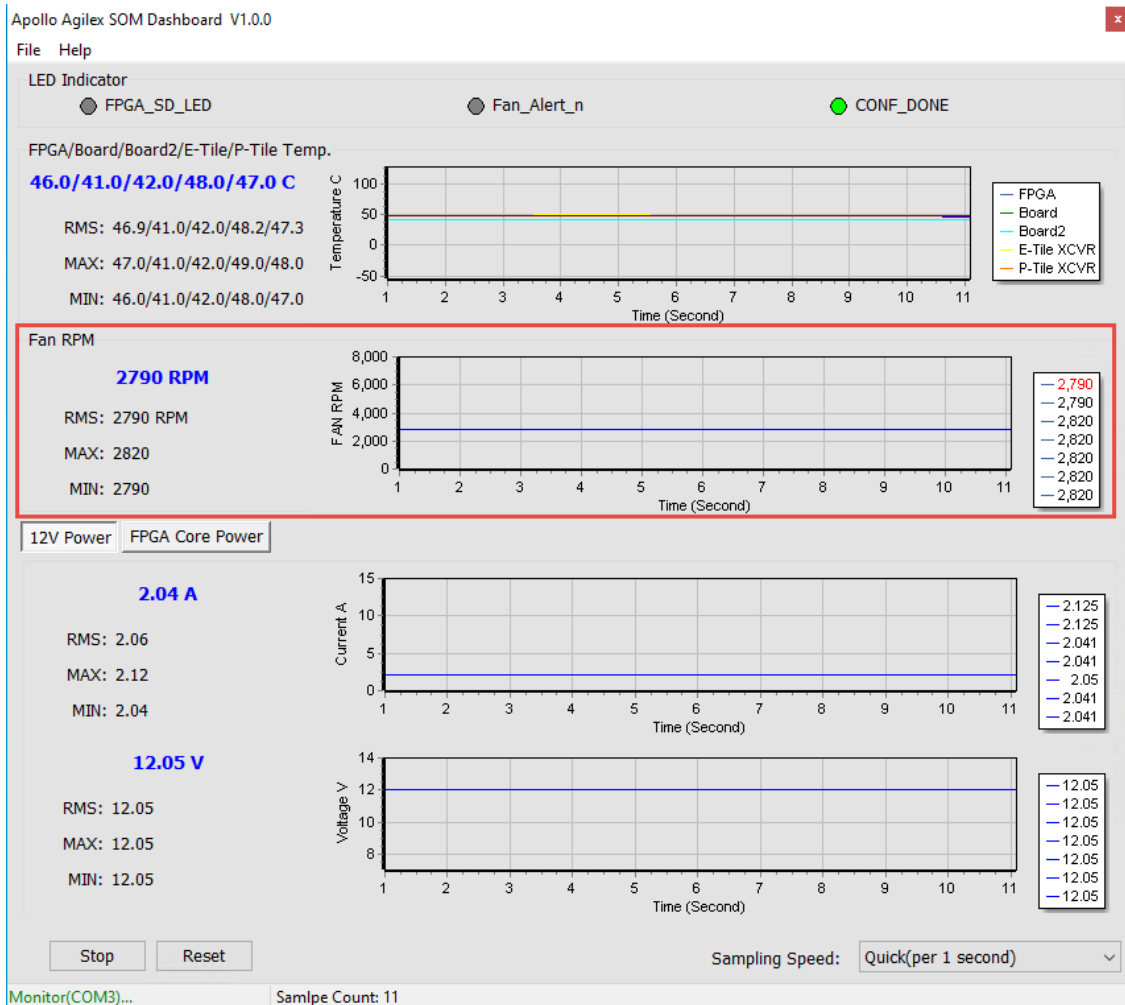

Figure 3-7 FAN RPM section
- **Fan RPM:** It displays the real-time speed of the fan on the Apollo Agilex board, as shown in Figure 3-7.